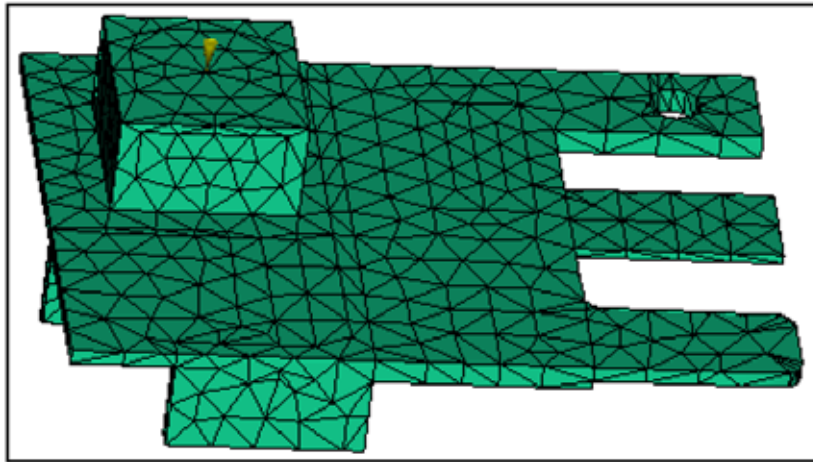

Figure 161: Gate location in the middle of the box
3. Set the injection location in the center of the box structure as shown in Figure 161.